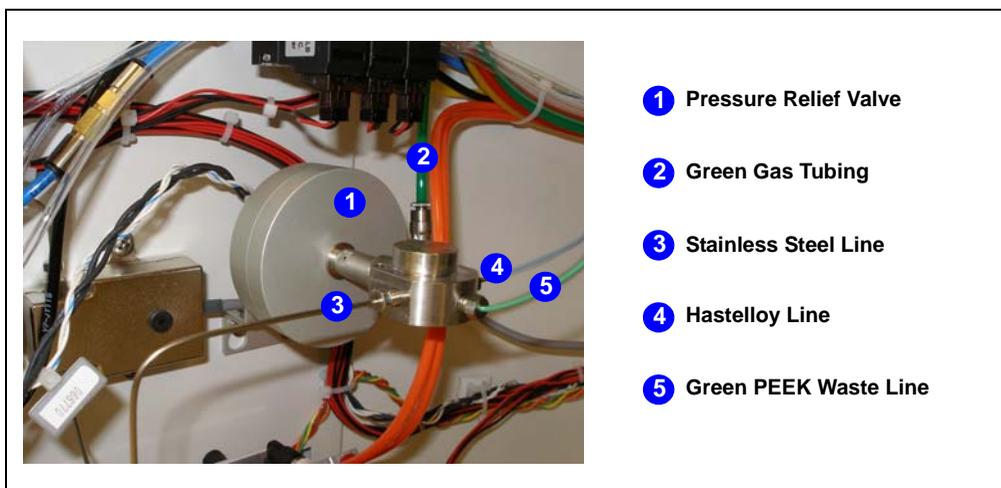

Figure 5-16. Connections to the Pressure Relief Valve
4. The pressure relief valve is installed (see Figure 5-16, ①) directly above the pump on the component mounting panel on the inside of the door. Disconnect the green gas tubing (②) from the press fitting on the valve.